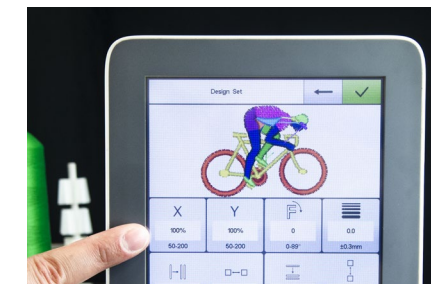

Figure 79
1. Click on the "X" icon, and input the new value you'd like to resize your design to. **See Figure 79.**